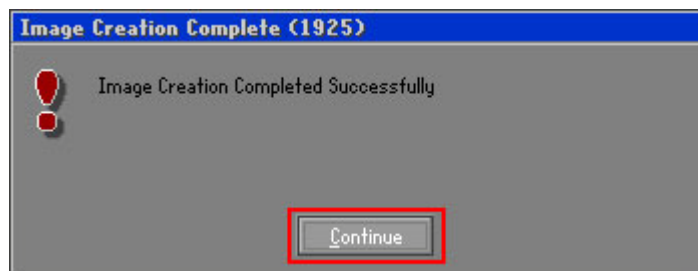

Figure C-20: Image Creation Complete
Step 11: When the image creation completes, a screen prompts as shown in **Figure C-20**.